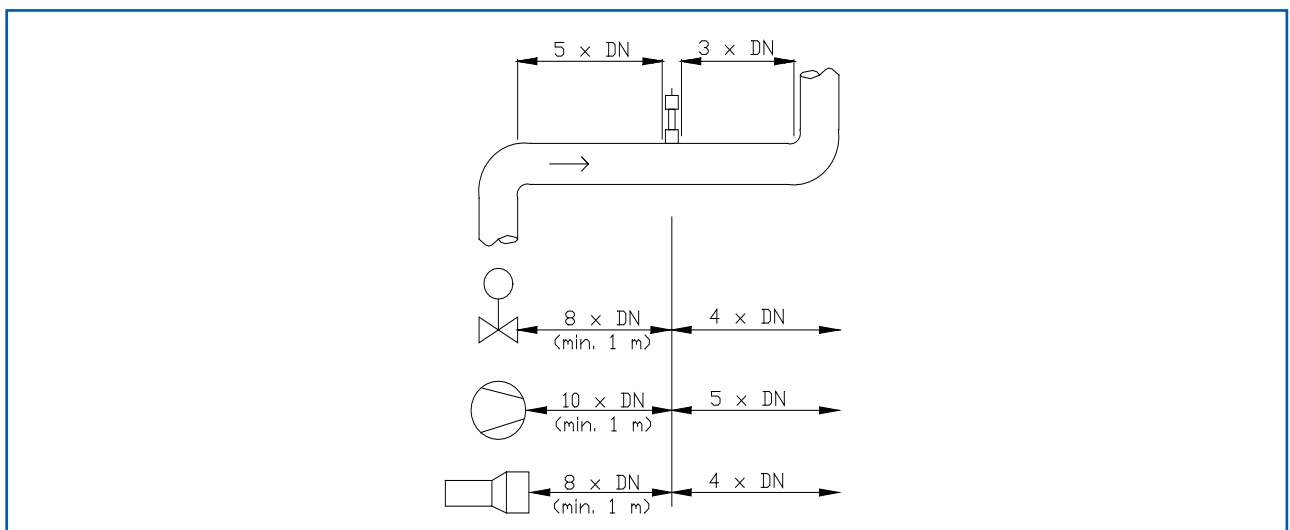

Fig. 3: Minimum distances of the measurement point from pipe geometries and fittings
- Ensure that the measurement point is an adequate distance from valves, manifolds, blowers and bucket wheel feeders and other measurement ports such as those for pressure and temperature sensors, etc. (See Fig. 3)